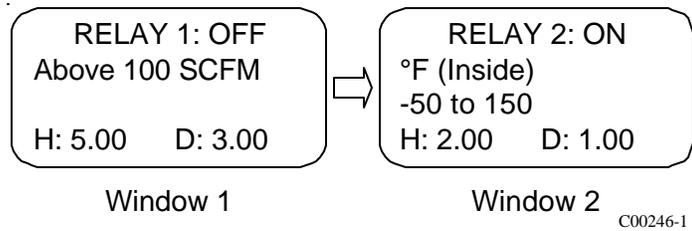

Figure 19 - Relay Status Verification Display
2. Press 7, the Relay option. The two screens in Figure 19 describe how the two relays will react to changes in flow rate or temperature. Screen 1, line 1 is the current status of relay 1. Line 2 shows that the relay will change states when the flow rate exceeds 100 SCFM. The last line displays a hysteresis (H) of 5 SCFM and a delay of about 3 seconds. Screen 2, line 1 is the current status of relay 2. Line 2 and 3 shows that the relay will switch states on changes in temperature (°F). The state of the relay will change when the temperature is inside the temperature range of -50 to 150 °F. The last line displays a hysteresis (H) of 2 °F and a delay of about 1 second.